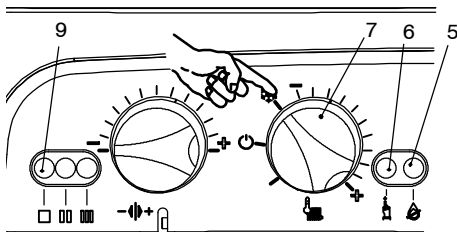

Fig. 7.6
- 2 Turn the function selector 7 as in Fig. 7.6. The appliance operation light 9 will flash every 2 seconds.